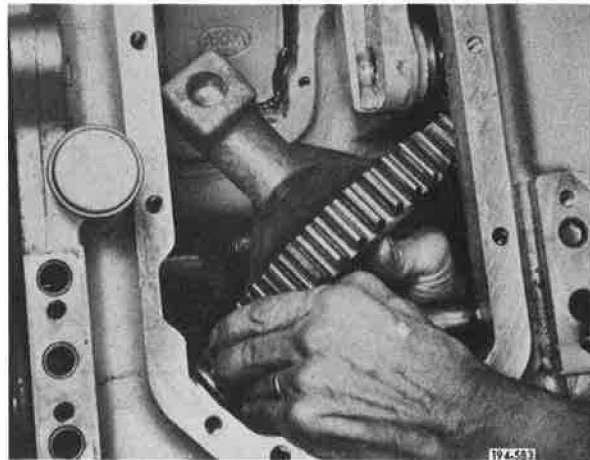

Figure 5-732. Removing Reverse Gear and Shift Fork
20. Remove reverse gear and its shift fork. See Figure 5-732.